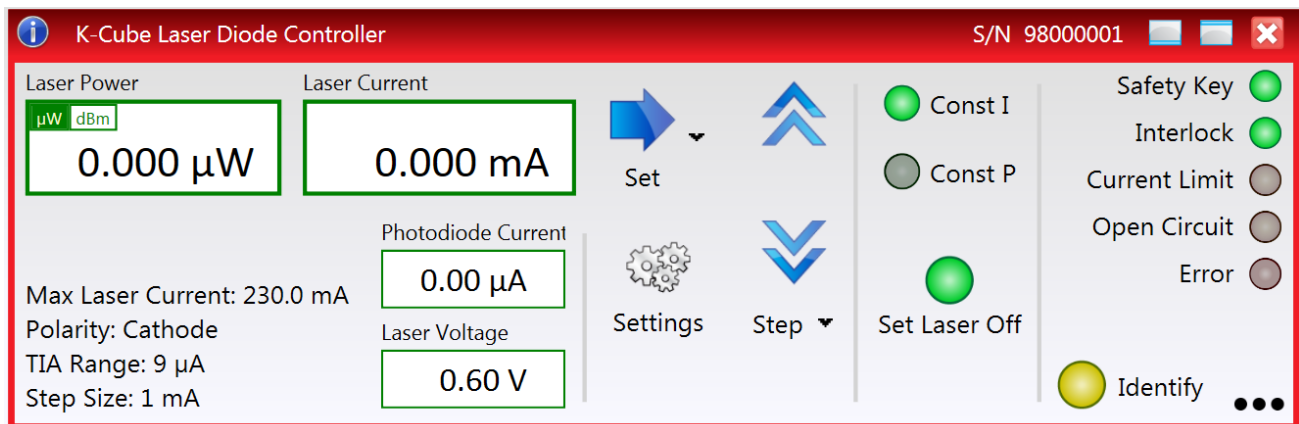

Fig. 5.1 GUI Panel Showing Step and Identify Buttons
- 5) Run the Kinesis program - Start/All Programs/Thorlabs/Kinesis/Kinesis. The server registers automatically the units connected on the USB bus and displays the associated GUI panels as shown in Fig. 5.1.